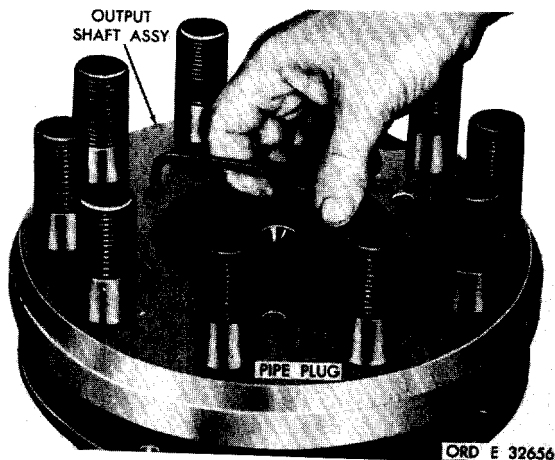

Figure 237. Removing pipe plugs from output shaft assembly
(1) Using a 3/16-inch hexagon wrench, remove three pipe plugs from output shaft assembly (fig. 237).